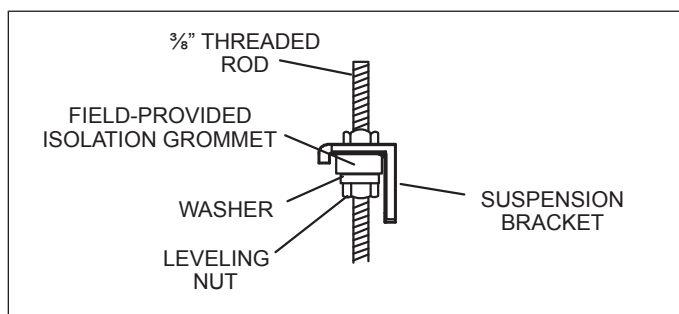

Figure 8. Isolation Grommet
- If necessary, install a field-provided isolation grommet as shown in "Figure 8. Isolation Grommet" to prevent transmission of vibration from unit to structural ceiling.
- The unit is factory-configured for the supply air to be delivered from the front and the return air filter at the rear of the unit. The return air filter location can be relocated in the field for bottom return air filter access, if more convenient. See "Figure 8. Isolation Grommet".